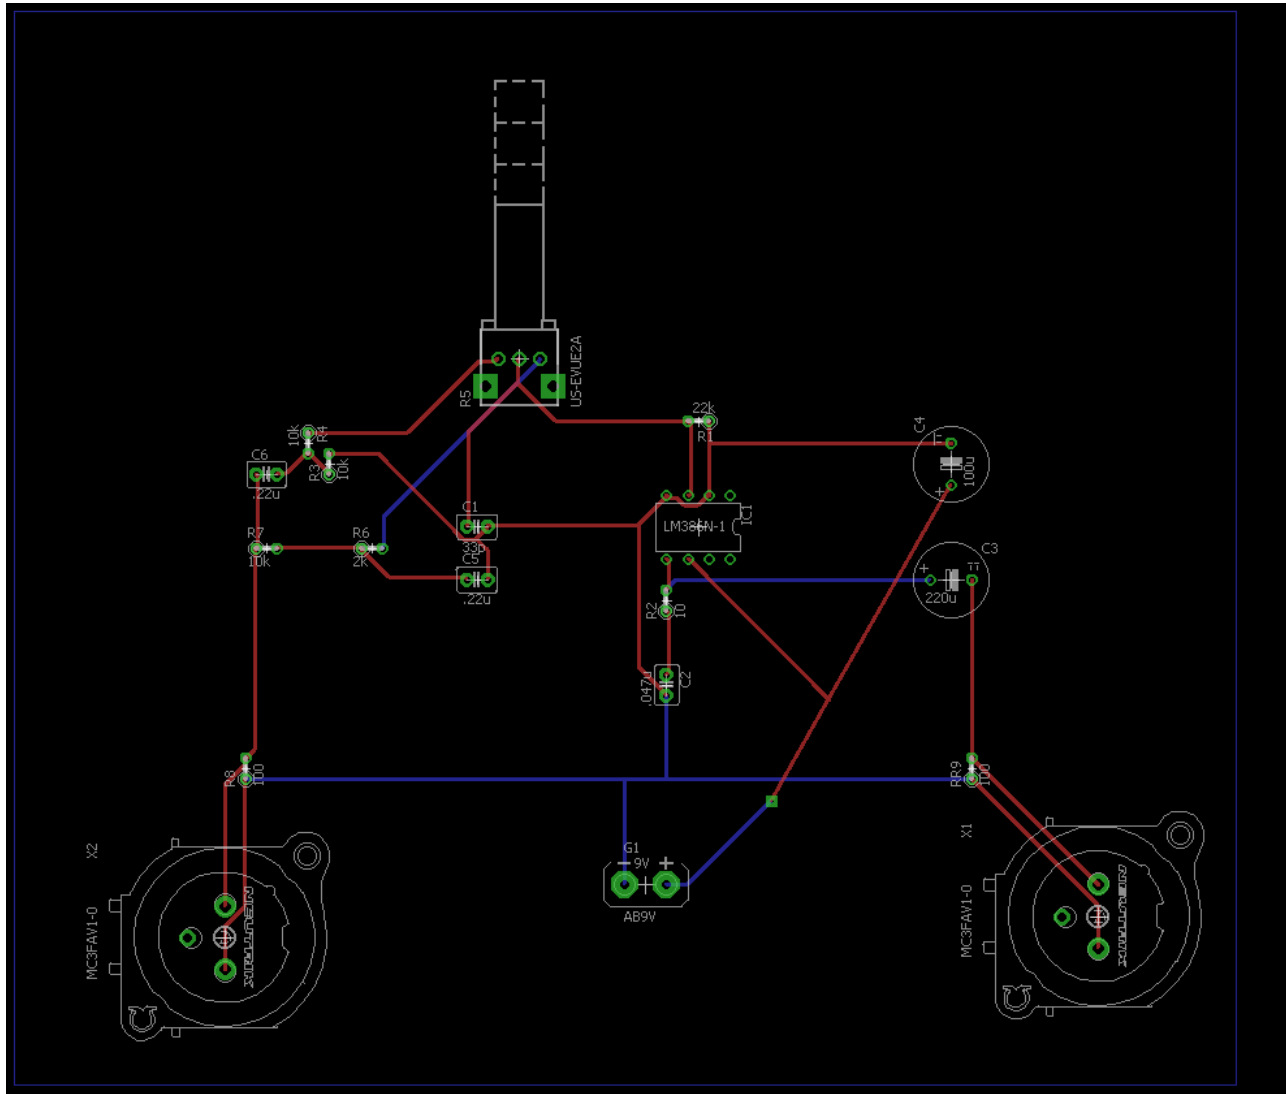

Figure 16
9. To start the autorouting process, click the **Auto** icon and click “ok”. Eagle will give multiple options of layouts to choose from. **Figure 16** shows a possible routed layout. The autorouter tool is a powerful tool that offers much customization. For more information go to <http://www.build-electronic-circuits.com/eagle-autorouter/> to learn how to use this tool to its fullest extent.